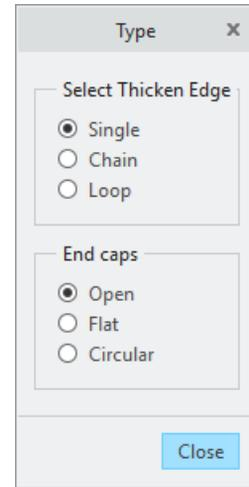
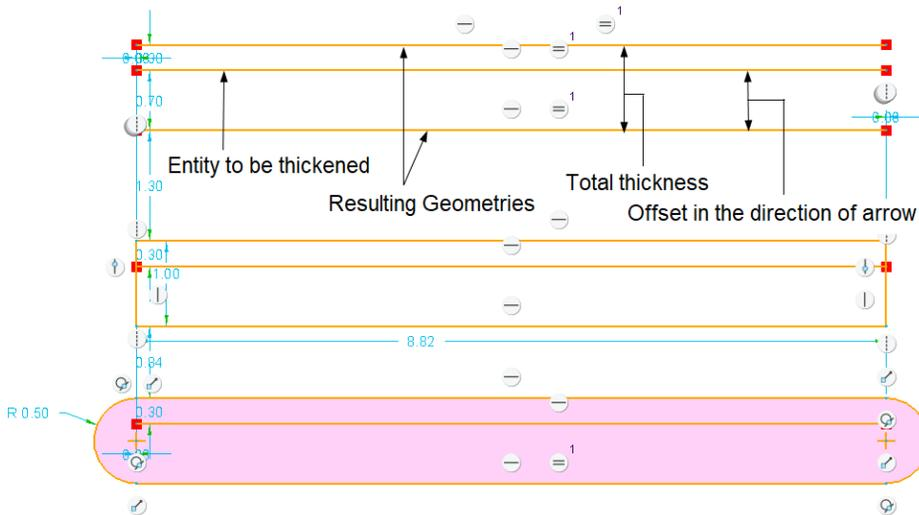

Figure 3-24 The **Type** dialog box of the **Thicken** tool
Figure 3-25 Entities created using the **Open**, **Flat**, and **Circular** options of the **Thicken** tool
1. Choose the **Thicken** tool from the **Sketching** group of the **Sketch** tab; the **Type** dialog box is displayed. By default, the **Single** radio button is selected in the **Select Thicken Edge** area and the **Open** radio button is selected in the **End caps** area of the **Type** dialog box, as shown in Figure 3-24.
3. You can create entities with flat or circular end caps by selecting the options in the **End caps** area of the **Type** dialog box, refer to Figure 3-24. To do so, choose the desired radio button from the **End caps** area of the **Type** dialog box before clicking on the entities. Next, follow the step 2 and step 3 to create geometries with flat or circular end caps, as shown in Figure 3-25.